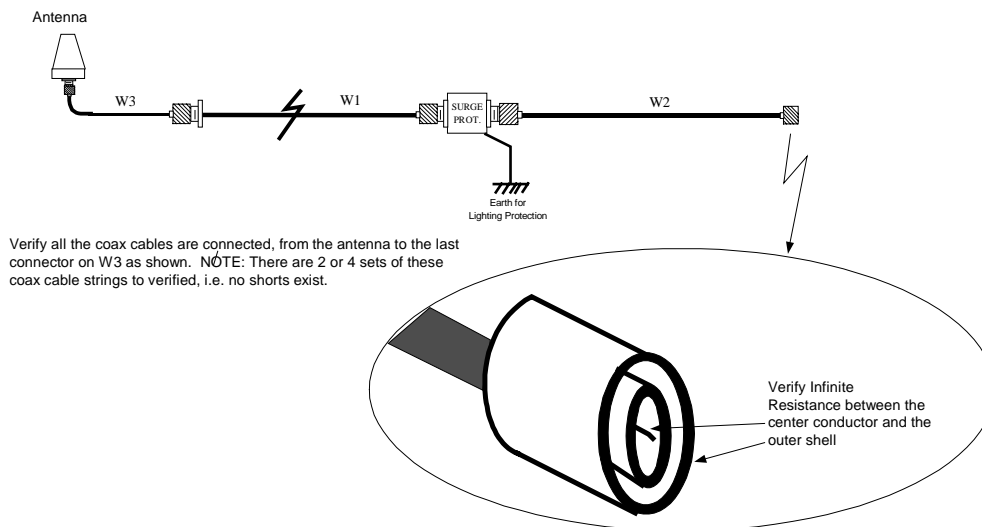

Figure 4.3.2-1: Verify Coax Cables, No Shorts
**BEFORE CONNECTING THE W2 COAX TO THE BACK OF THE MXU, VERIFY THE CENTER CONDUCTOR OF THE COAX IS NOT SHORTED TO OUTER SHELL OF THE CONNECTOR. REFER TO FIGURE 4.3.2-1**